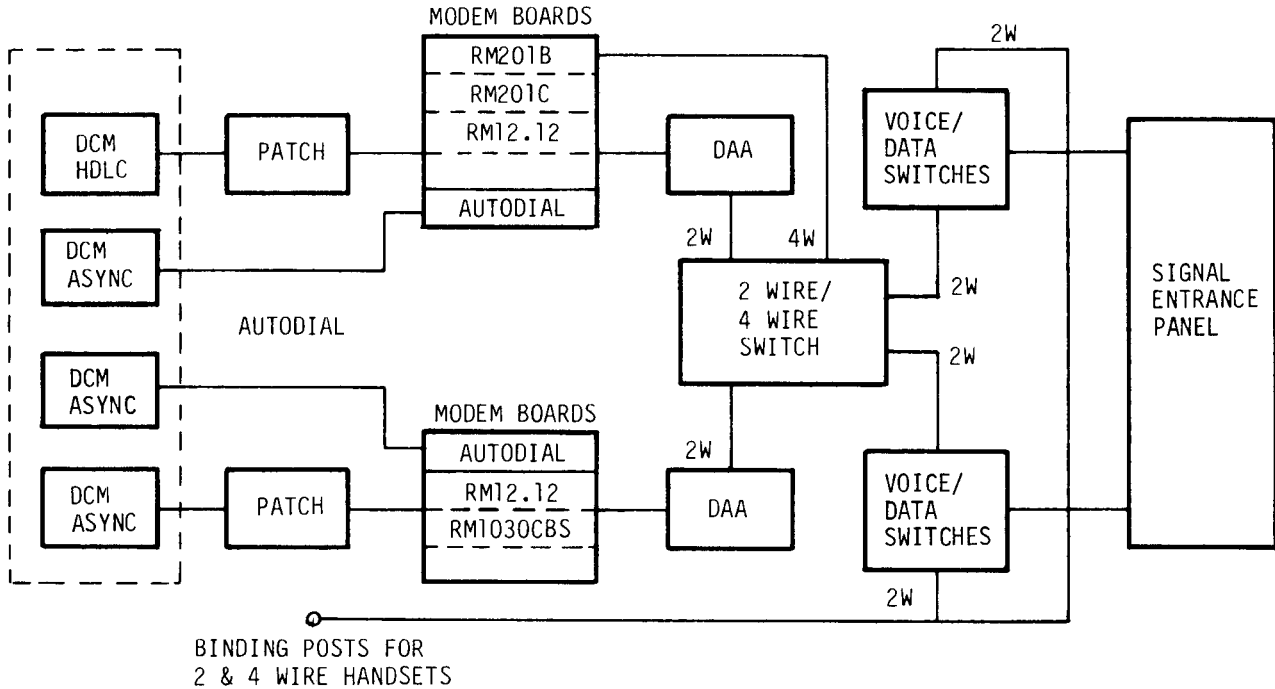

Figure 2-22. Dial-up Block Diagram
(8) Wire pairs 25 and 26 from the signal entrance panel are used for voice communications and for data transfer over telephone lines (fig. 2-22). These wire pairs can be used as two 2-wire circuits or one 4-wire circuit. Switches direct either or both pairs to data transmission circuitry or to the binding posts. The binding posts are used to connect telephones to the lines for voice communications.
(9) In each circuit, a data access arrangement (DAA) protects commercial telephone lines from out-of-tolerance conditions accidentally produced by van equipment. These include high voltages, currents, and signal levels.
(10) The block diagram (fig. 2-22) shows modem boards for different protocols in each auto dial circuit. This shows only the capability of using these different protocols. In practice, the autodial boards are always installed. The modems are installed and removed as required by the protocol of traffic to be processed.
(11) At the CPU, each circuit has a device control module (DCM) to adapt circuit differences to and allow control by the CPU. For one circuit, a synchronous adapter is used; the other uses an asynchronous adapter. The dialer circuits also use asynchronous adapters. A patch module in each circuit allows circuit-to-circuit patches, connecting either circuit to either CPU adapter. The autodial circuits can be used independently and simultaneously.
(12) When the four-wire configuration is set, there is no auto dial function: both the auto dial boards and the DAAs are removed from the circuit.
(13) The auto dial circuit conforms to Bell 801 standards, the dc low level circuit to MIL-STD-188-114, and all other cabinet B interfaces to EIA RS-232-C standards.